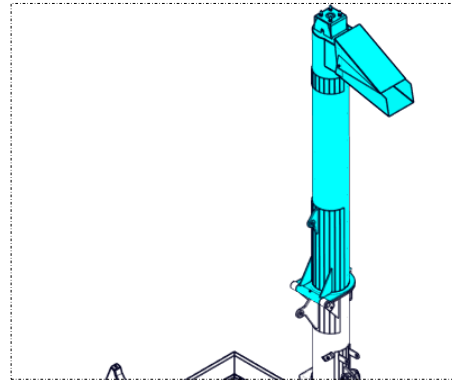

Figure 4.13
- 2) Continue until the upper section of the auger is in line with the lower section (Figure 4.13).